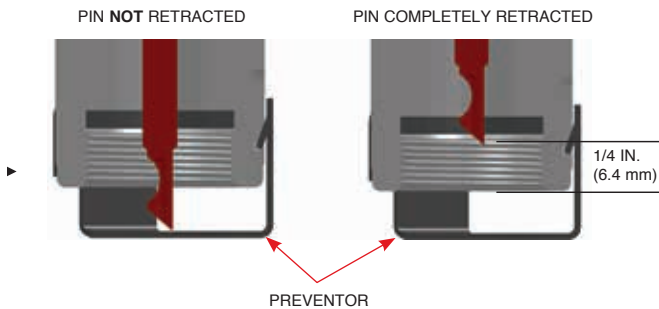

FIGURE 8-4
- a. Confirm puncture pin is completely retracted on the Electric-Pneumatic Actuator. See Figure 8-4.